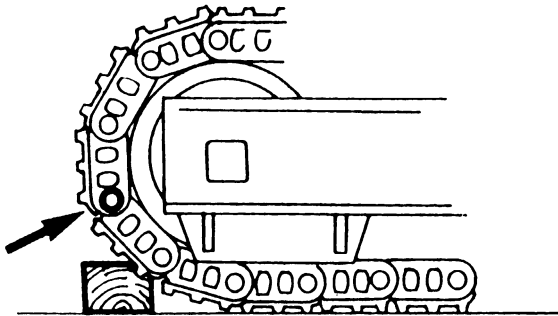

Fig 19.
- 1 Position the link to be replaced over the idler wheel and place a block as shown to support the link below the one to be removed → Fig 19. \(□ J-8\).